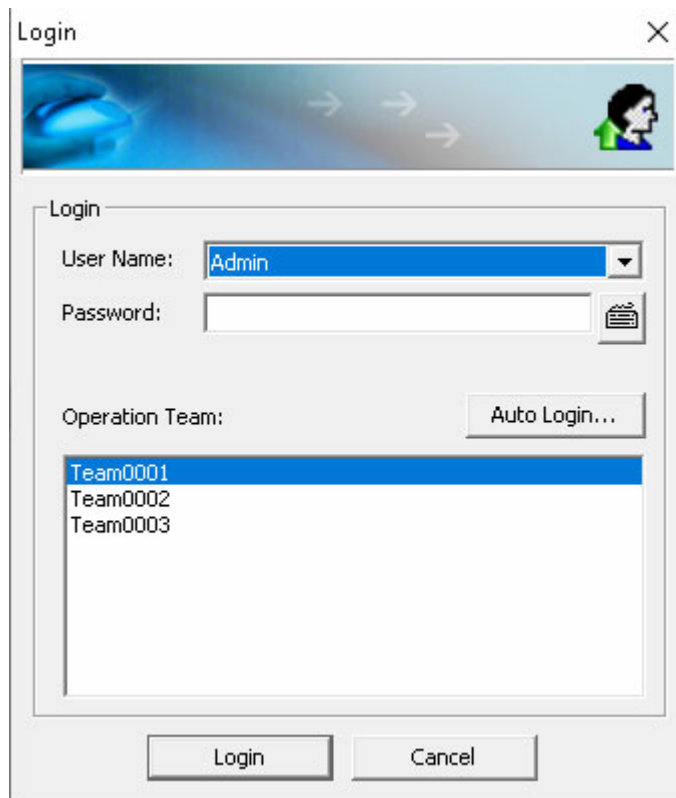

Figure 4-14 Login
- **Login:** It is used to login the system in designated identity. The “Login” dialog box shown in Figure 4-14 will pop up when clicking the graphics object, the switch of login window is completed after the validation of “User Name” and “Password”.